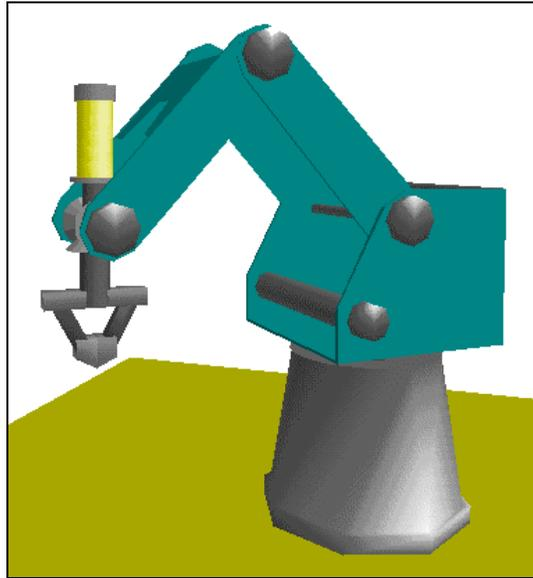

Figure 3-7: Position #6
- 10 Moving only the wrist roll axis, bring the arm to the position shown in Figure 3-7, and record this as position #6.